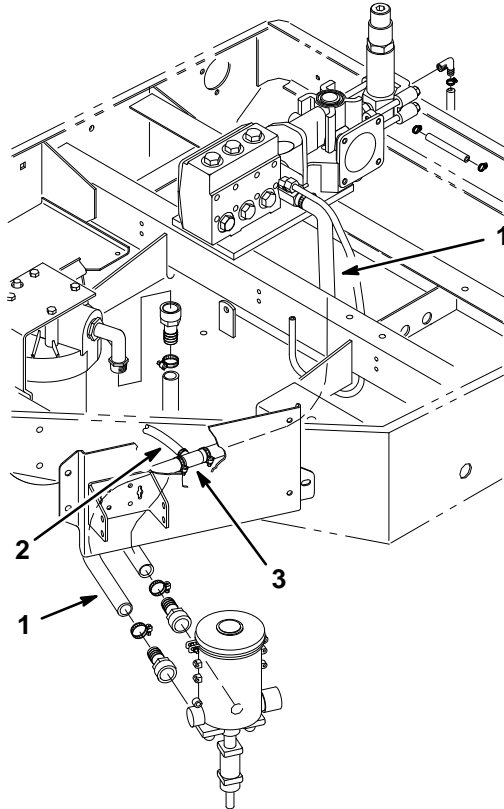

Figure 13
- E. Locate the blue 3/4" (19 mm) hose that runs from the injector outlet to the pump inlet. Cut the hose just behind the engine (Fig. 13).
- F. Install the tee fitting included with the kit in the blue 3/4" (19 mm) hose (Fig. 13).
- G. Install the blue 3/8" (9.5 mm) hose from the regulator to the tee fitting (Fig. 13).